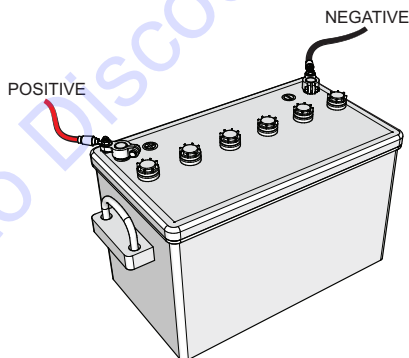

Figure 7. Battery Connections
**ALWAYS** be sure the battery cables (Figure 7) are properly connected to the battery terminals as shown below. The **red cable** is connected to the positive terminal of the battery, and the **black cable** is connected to the negative terminal of the battery.